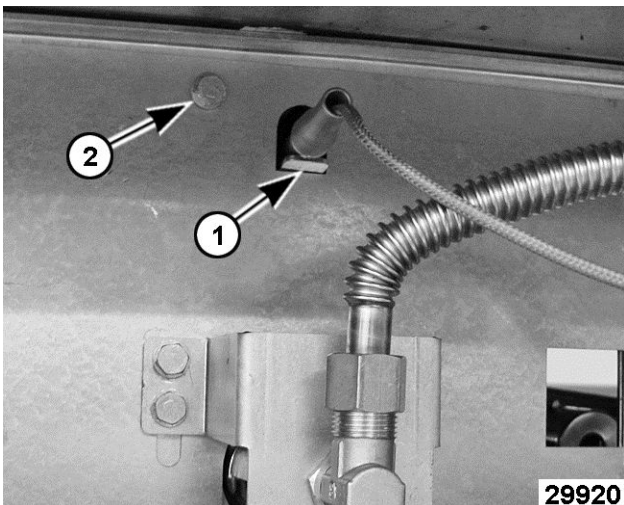

Fig. 20
5. Insert the thermocouple shield front mounting tab (1, Fig. 20) into the burner shield slot to support the thermocouple shield.
6. Install top screw (2, Fig. 20) from burner support plate at each burner section, to secure the griddle plate to base of equipment.